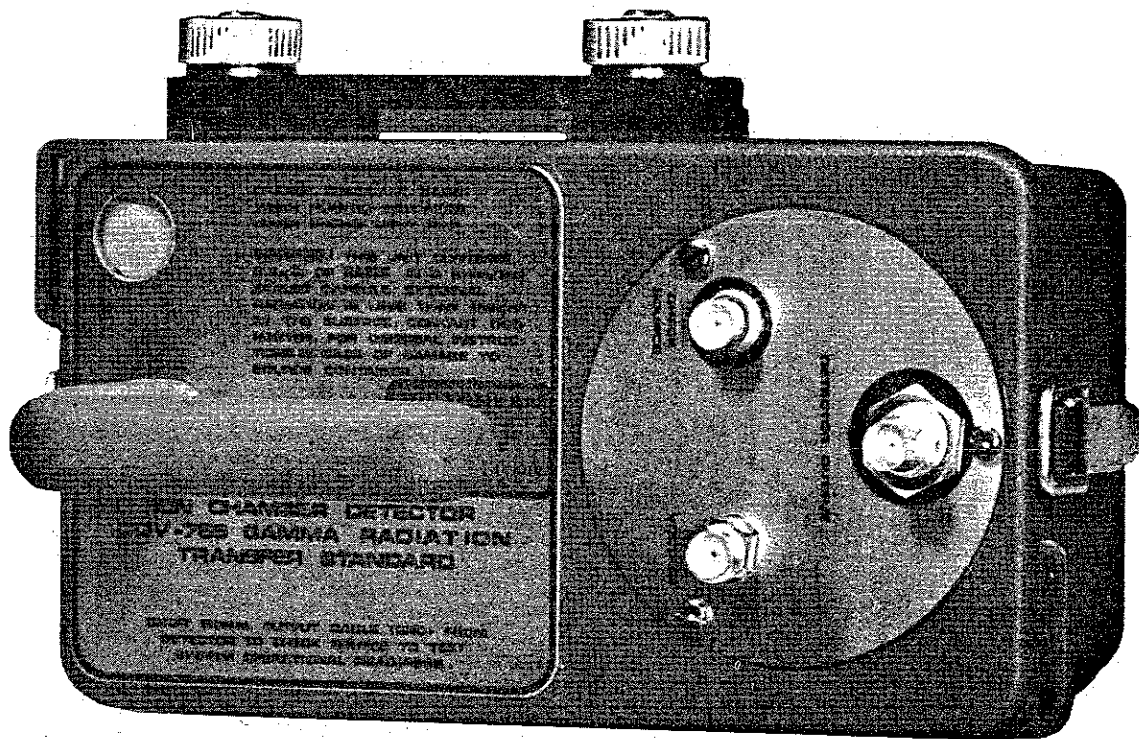

Figure No. 3: Detector Unit
G.1 - Circuit Description: The CDV-765 Gamma Radiation Transfer Standard consists of an ion chamber detector mounted in a case resembling a CDV-715 Ion Chamber Instrument. This detecting element is shown in Figure No. 3. The detecting element is a hermetically sealed, air filled ionization chamber consisting of a steel cylindrical shell and a thin aluminum disc for a collector located in the center of the shell. The shell is the positive electrode and the collector the negative electrode. The collector is insulated from the shell by three (3) styrene pillars projecting from the chamber lid and by an extremely high resistance triaxial feedthrough. The feedthrough is mounted in the chamber shell by a glass-to-metal seal and the center contact of the feedthrough serves as the external connection to the collector. The intermediate ring electrode in the feedthrough is connected to ground as a guard ring to prevent leakage currents across the glass insulator. A voltage of ~ 200 VDC positive is applied to the shell with respect to the collector assuring adequate chamber saturation at gamma exposure rates well over 500 R/h. This collection voltage causes ions produced by the secondary electrons to be attracted to the chamber electrode having the opposite charge. The collection of these ions on the electrodes produces a small current which is proportional to the number of ions collected. Therefore, the gamma radiation intensity